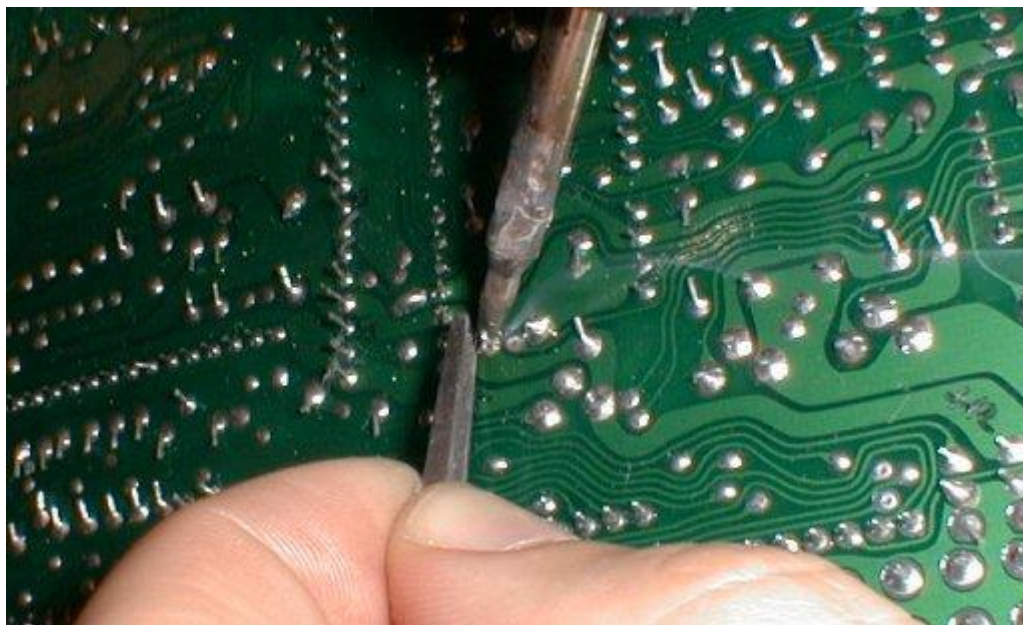

Figure 3
7. **Bend the Capacitor Leads.** Now would be a good time to straighten out all of the capacitor leads. **Figure 3** shows this being done with a tweezers while heat is applied with a soldering iron. This will make it easier to both solder suck and remove the capacitors later.